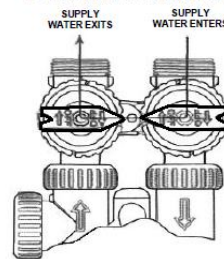

Figure 3 - Bypass
2. **Bypass Position:** The inlet and outlet handles point to the center of the bypass. The system is isolated from the water pressure in the plumbing system. Untreated water is supplied to the building (**Fig. 3**).
**STEP 11:** Turn on water supply. **MAKE SURE THE BYPASS VALVE IS IN THE “BYPASS” POSITION** (Figure 3, Page 4) NOTE: the INLET and OUTLET knobs turn *clockwise* to close the port to the softener and *counter-clockwise* to open the port to the softener. Open the main supply valve or turn on power to the pump on private well systems. Check for leaks and correct as needed.